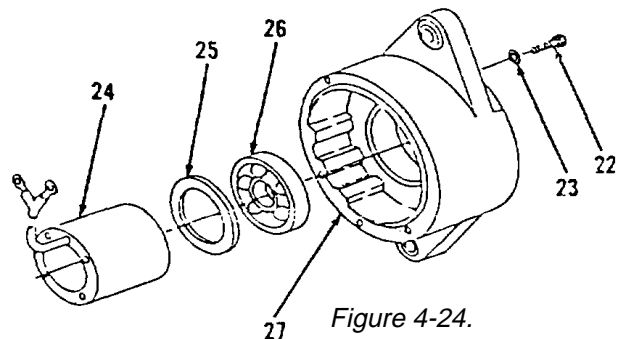

Figure 4-24.
20. Disconnect field coil (24) wire assembly at two terminals from inner frame (27, Figure 4-24).
21. Remove six screws (22) and lockwashers (23).